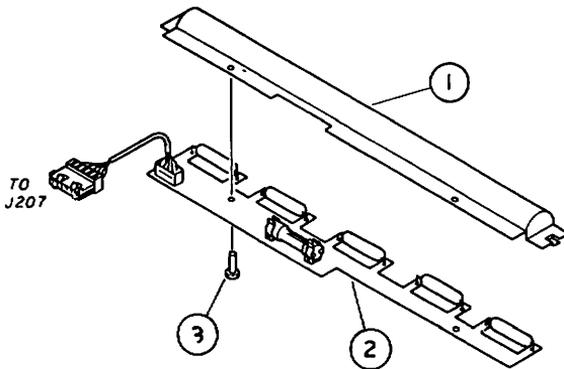

FIGURE 3
Preconditioning Exposure Assembly (Figure 3).....	6.10
**LASERWRITER - PRECONDITIONING EXPOSURE ASSEMBLY (Figure 3)**